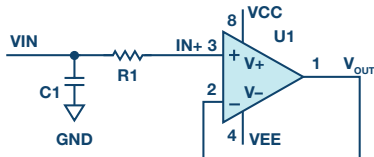

Figure 5. Input protection with a low-pass filter at the analog input.
- ▶ C1 is before R1 in this case because it creates a capacitive divider with the 150 pF capacitor (from Figure 5) discharging the ESD waveform into our system, which shunts energy away before the amplifier sees it.